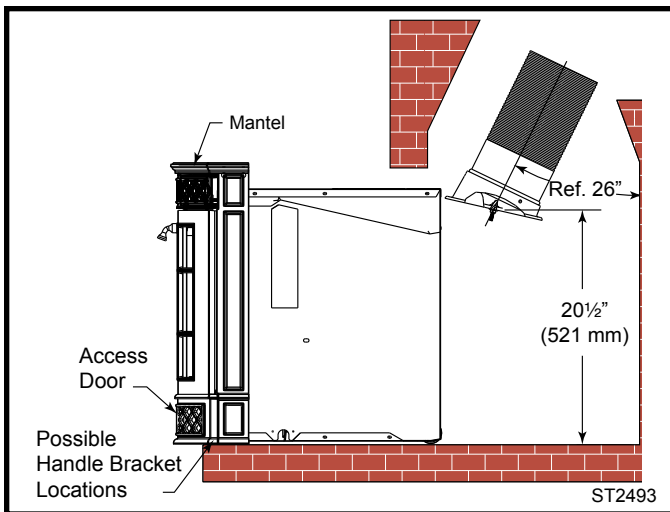

Fig. 7 Measured height from the finished hearth surface to the center bar of the flue collar.
- Install the connector pipe or liner so that the height measured from the finished hearth surface to the center bar of the flue collar is 20½" (521 mm). (Fig. 7) This will allow an easy connection once the stove is rolled into place.
10. Install the supplied handle storage bracket by simply sliding the flat end under the right or left side of the stove. (Fig. 7)